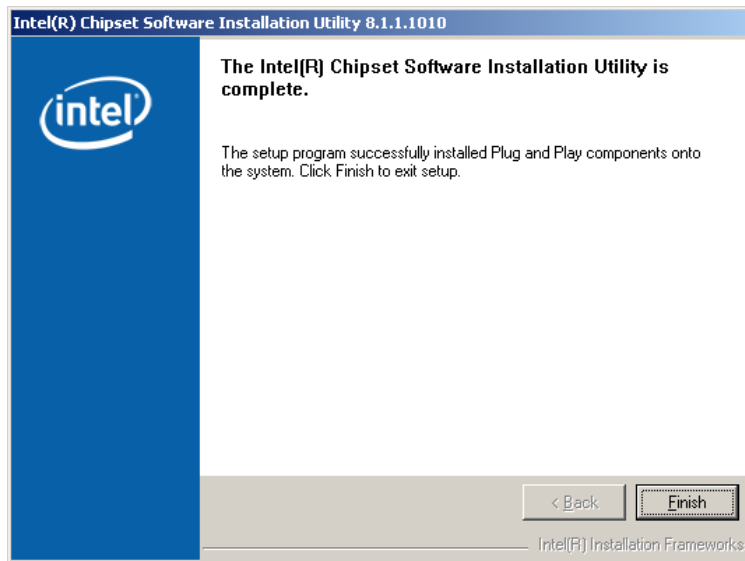

Figure 7-6: Chipset Driver Installation Complete
Step 12: After the driver installation process is complete, a confirmation screen appears (**Figure 7-6**).